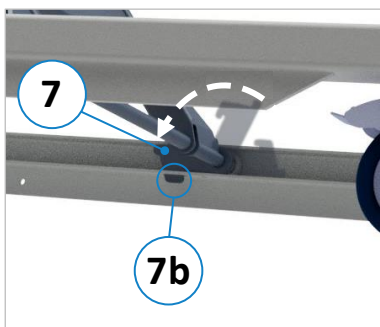

Figure 9: Safety catch for securing
To secure the lift table, move it upwards so that both safety catches (7) can be folded over. Now fold the safety catches (7) manually by 180° so that they engage in the catch point (7b) shown in ⇒ Figure 9.